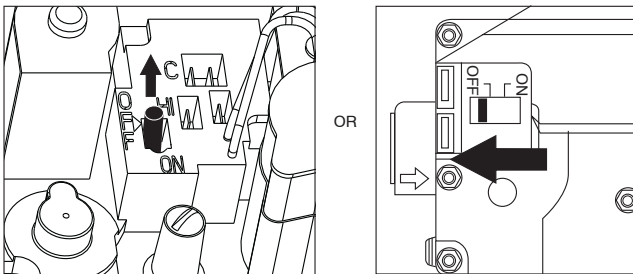

Fig. 7 - Control Switch to OFF
5. Turn the control switch on the gas control to the OFF position and wait 5 minutes. See Fig. 7. Then smell for gas, including near the floor. If you smell gas, STOP! Follow “B” on furnace label. If you don’t smell gas, go to next step.
5. Turn the switch on the gas control to the OFF position. (See Fig.7.)